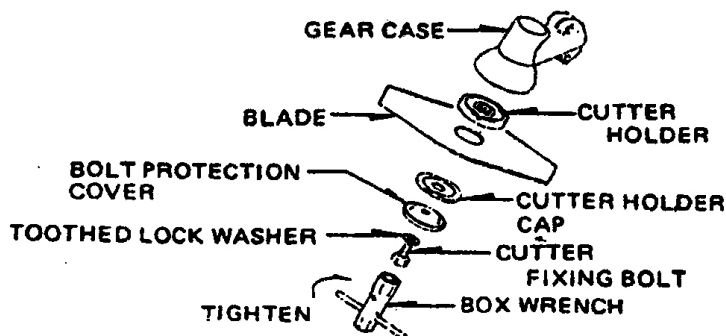

Fig. 7
- 1) When installing a steel blade, fit the blade as shown in the fig. 7